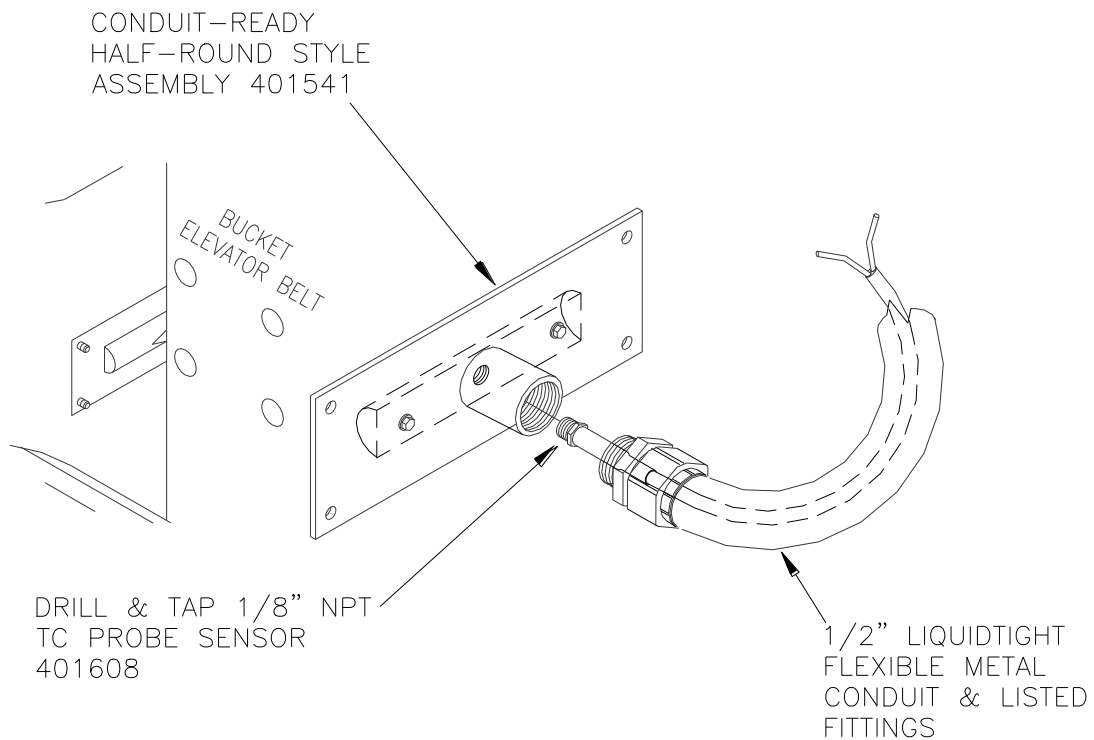

Figure 17. Rub Block & Drill & Tap 1/8-Inch NPT Probe Sensor
6.6.1. BELT ALIGNMENT RUB BLOCK (401541) A "RUB" includes a conduit-ready (1/2-inch size) coupling welded to a mounting plate. A half-round block of brass stock is bolted to the plate. It is prepared to accept the Drill & Tap Type Temperature Sensor. See Figure 17.
- 6.6.1.2.8. After you have made the appropriate size hole in the leg casing to accommodate the rub block, you can install the Drill & Tap Sensor into the pre drilled and tapped 1/8" NPT hole provided in the rub block. See Figures 17 & 21.